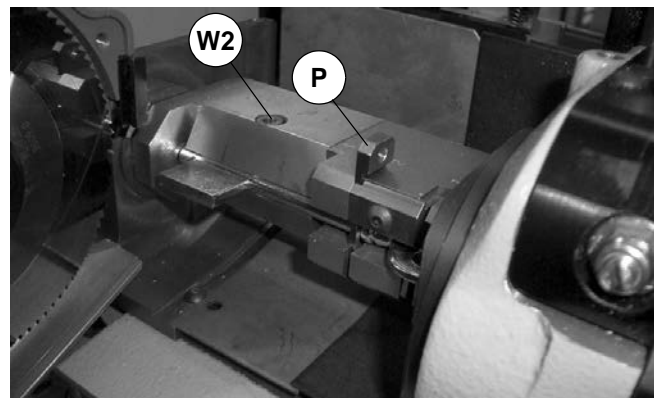

Fig. 66
Raise the positioning plate (P) and fit the key blank into the rotating clamp (S1) from the front (*) placing the stem into the “V” on the jaws of the K2 tailstock. Take care to keep the bit in the horizontal position and the key stop up against the stop (STOP 2) achieved by fitting the plate (P) into its seat and securing the key by tightening the jaw screw (W2) with the (T4) wrench (fig. 66). Replace the (T4) key in its seat.